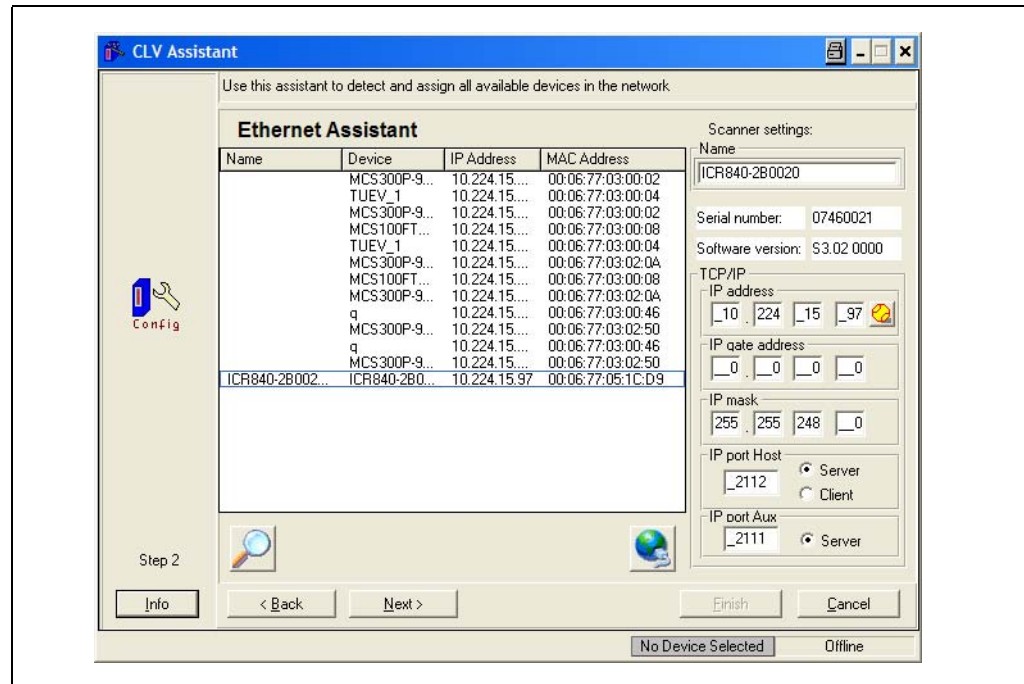

Fig. 6-4: CLV Assistant: Ethernet Assistant dialog box after a new IP address/mask has been assigned to the ICR840-2 (here: 010.224.015.097/255.255.248.000)
- Reselect the device and check, whether the required IP address/mask has been successfully assigned to the ICR840-2 (Fig. 6-4, Page 52).